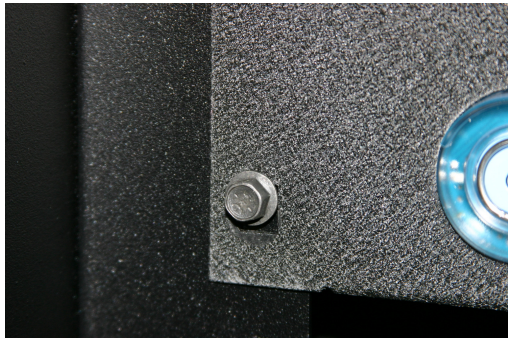

Fig. 25
Each 40 position panel is held in place by four(4) 3/8" hex head bolts, one in each panel corner. Using a ratchet and socket, or other appropriate wrench, remove the bolts. Be sure to support the panel as the last bolt is removed. **CAUTION: take extreme care to ensure the wire leads connected to the back of the panel do not get hung on other wires as the panel is removed.** Gently remove the panel, turn it vertically, right side up, and rest the panel in the bottom of the cabinet. Disconnect the Molex connector to the panel and remove the panel from the cabinet. See figures 25 - 30.